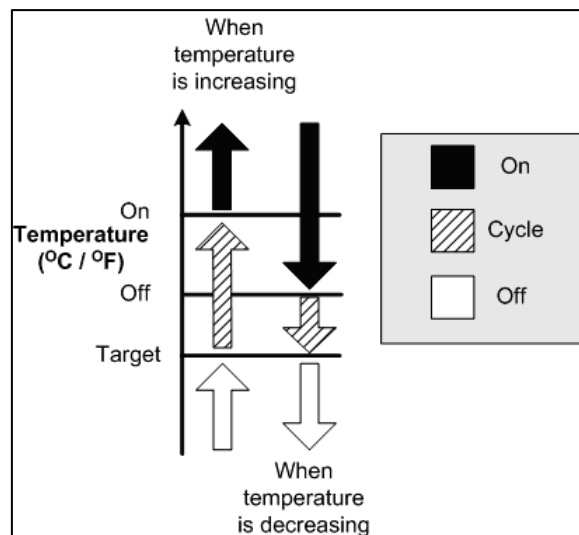

Figure 6: Minimum Ventilation Schemes
- When the temperature is between the Target and Temp. Off temperatures (labeled Diff in the graph) (refer to Figure 6):